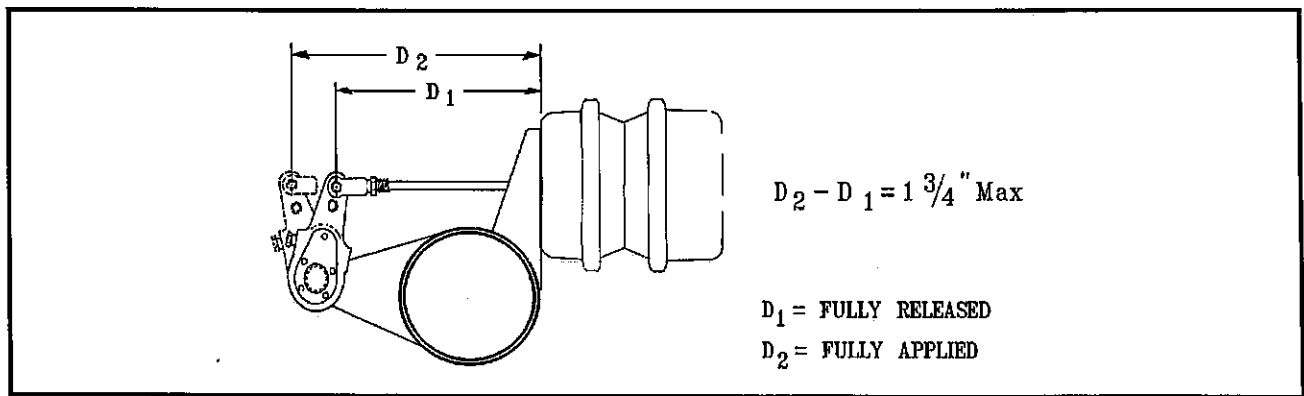

FIG. 6-3 CHECKING BRAKE ADJUSTMENT
d. Disconnect the slack adjuster from the connecting rod by removing the clevis pin (**See FIG. 6-3 on next page**).
- b. Measure the distance (D_1) from the face of the brake air chamber to the center of the slack adjuster linkage pin (See Figure 6-3).